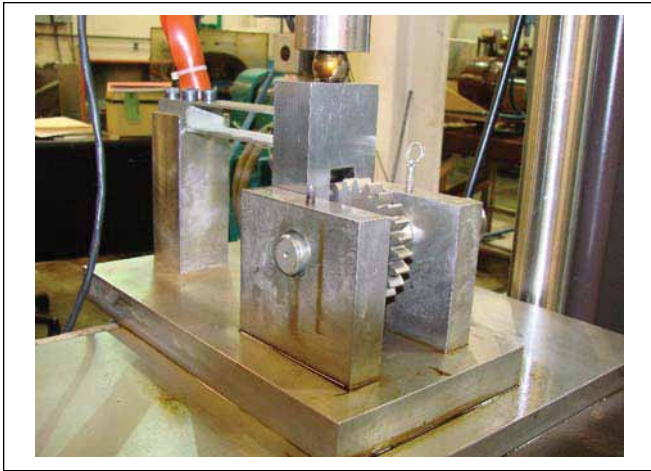
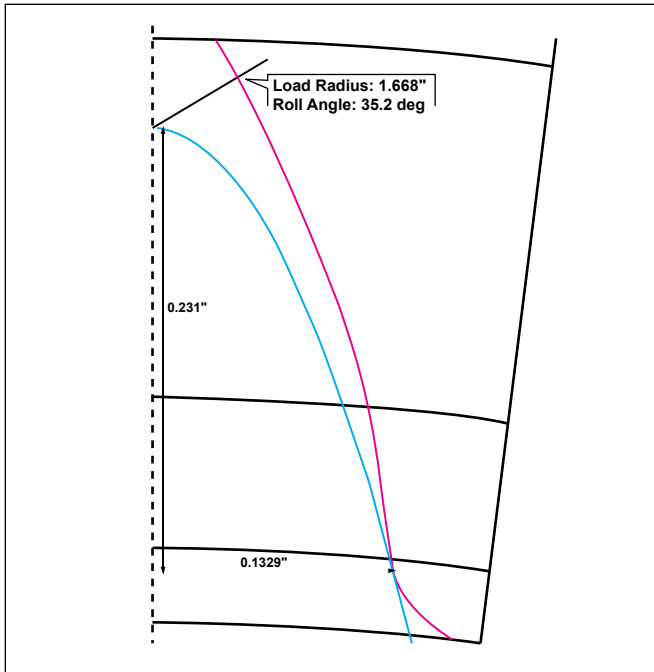
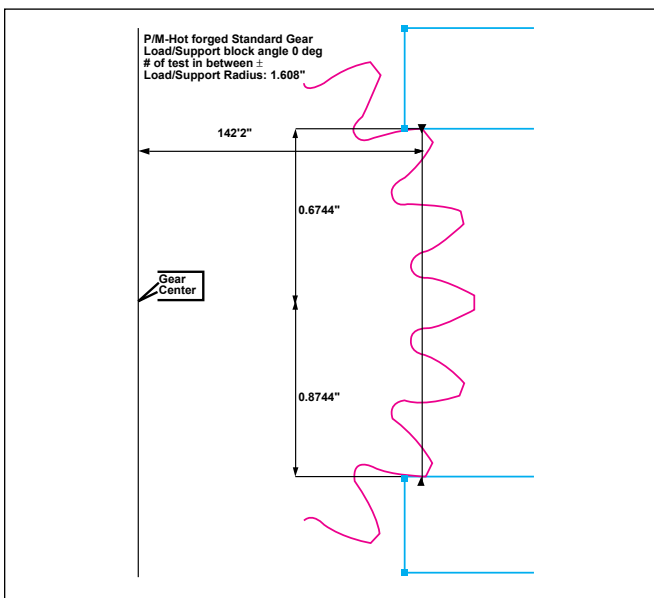

Figure 8—STF test fixture.
Figure 9—STF test loading details.
Figure 10—STF test layout.
**Tooth bending fatigue testing.** Single-tooth fatigue (STF) testing of individual gear teeth has been used widely to generate accelerated bending fatigue data at comparatively high cycles without risk of losing tests to other modes of failure. STF testing of ausform-finished P/F-steel gears and baseline wrought steel gears was carried out on a 5 kip servohydraulic universal fatigue testing machine utilizing a specially designed test fixture to hold the test gear and to facilitate fatigue loading via a flexure arm. The STF test fixture is shown in Figure 8.
Figure 9 shows the loading geometry for the test gears, showing the location of cyclic test load at 1.668" radius (35.2° roll angle), as well as the width and height of the critical section in the root fillet region determined by the Lewis parabola. Two teeth were tested simultaneously by applying cyclic load at the above radius (Fig. 10) until runout (defined as no failure after seven million cycles) or when one of the teeth failed—known in statistical analysis as a “sudden death test.” Sudden death fatigue tests are widely used in the bearing industry wherein several bearings are tested simultaneously until one bearing fails, then all bearings are replaced. Statistical analysis of sudden death fatigue tests takes advantage of improved statistical confidence due to the other parts not having failed yet. In this case of one of two teeth failing, ranking theory determined that the lowest value, in a set of two, clustered about a median location of  $B_{29,29}$  point of the population. Also, as both test teeth were loaded in a similar manner, a test that ran out counted as two data points. The STF test machine was programmed to automatically shut down after a preselected increase in tooth deflection of 0.005" to ensure a consistent end of the test for valid comparison between various test gear lots.
The fixture designed to hold the test gears during impact test is similar to the STF test fixture shown in Figure 8, and impact loading of the upper tooth occurs at the same location as the STF loading shown in Figure 9. The main difference is that the in-line reaction support contacts close to the root fillet region, thus, causing only the upper test tooth to fail during the impact test. The test layout used for tooth impact testing is therefore similar to Figure 10, with the difference being that the reaction tooth is three teeth away from the upper-tested tooth. The tooth adjacent to the reaction support tooth was removed by EDM process to facilitate mounting of the gear on to the impact test fixture.